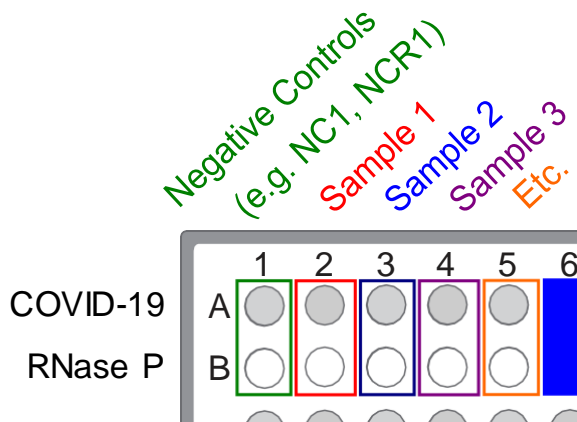

Figure 4 Paired sample and Negative Control wells for each assay
- b. Unseal the extraction plate, then add the first Negative Control from the single well of the extraction plate to wells A1 and B1 of the reaction plate, as shown in Figure 4 on page 58.